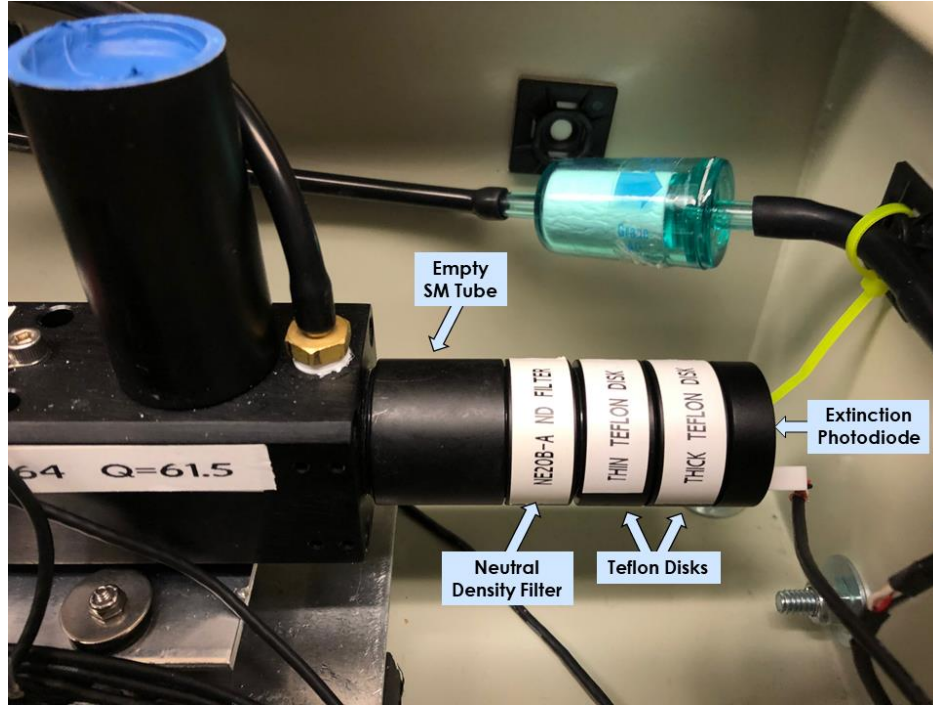

Figure 8. Extinction photodiode setup with an empty SM tube, neutral density filter, and Teflon disks attached to the instrument resonator.
6. Remove the power meter from the system and attach the extinction photodiode SM tube to the resonator following an empty SM tube, a neutral density filter, a thin Teflon disk, and a thick Teflon disk as shown in Figure 8.